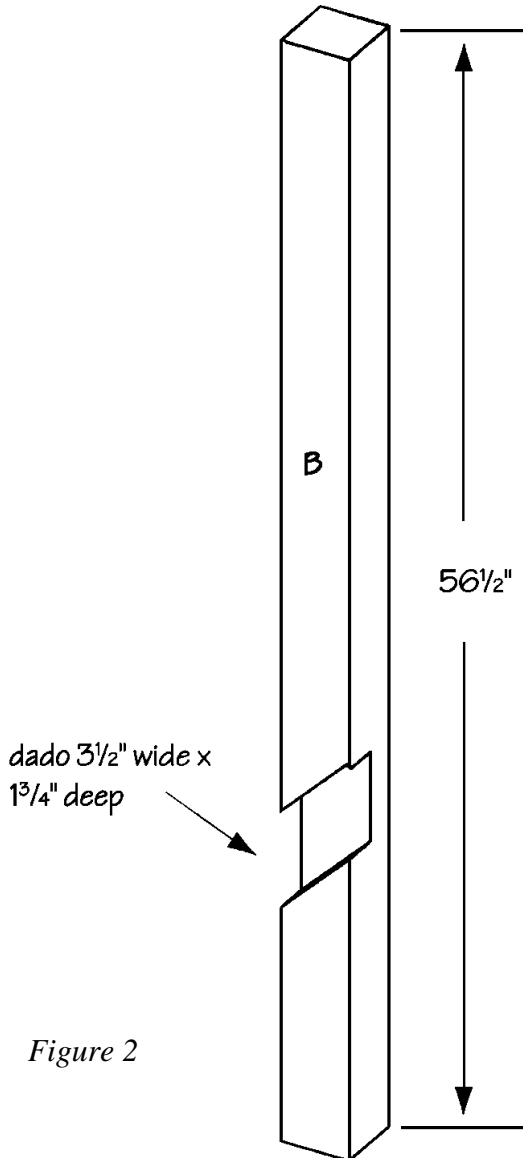

Figure 2
4. Cut one upright (B) from 4 x 4 pine, measuring 56-1/2" long.
5. Follow *Figure 2* to measure and then cut one 45-degree diagonal dado 3-1/2" wide and 1-3/4" deep, 12" from what will be the bottom of the upright support (B).